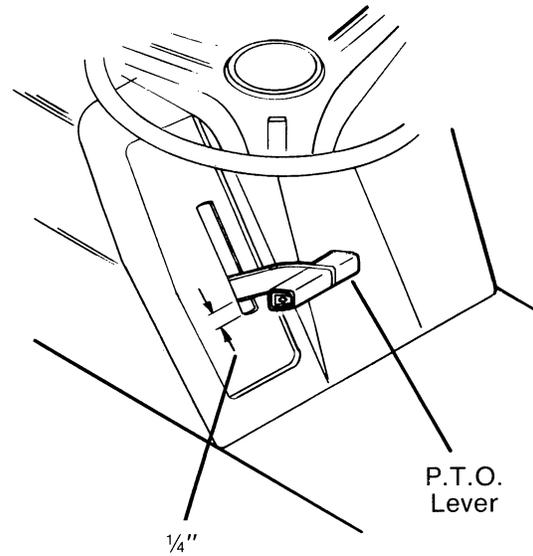
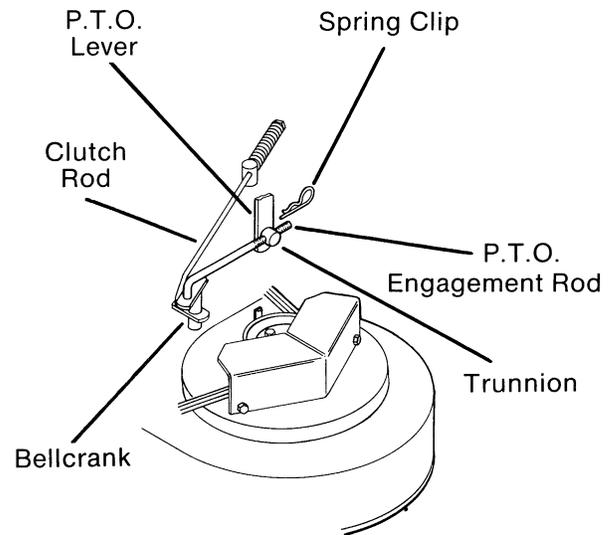

FIG. 8
FIG. 9
- O. Turn the trunnion on P.T.O. engagement rod, in or out, until small end of trunnion fits into hole on bottom of P.T.O. lever (Fig. 9). Secure with a spring clip.
NOTE: Large end of trunnion should be positioned on the left side (outside) of the P.T.O. lever. (Fig. 9)
- N. Position the P.T.O. lever on instrument panel 1/4 inch from the bottom of the slot, as shown in (Fig. 8).
- Move P.T.O. lever up to the "ON" position. The clutch rod, attached to bellcrank, should move over-center and rest against bellcrank hub. (Fig. 9) The P.T.O. lever must not contact top of slot in any cutting height. (Fig. 8)
- Move P.T.O. lever down to the "OFF" position, P.T.O. lever must not contact bottom of slot in any cutting height. (Fig. 8)
- Remove spring clip holding trunnion to bottom end of P.T.O. lever (Fig. 9), then remove trunnion from lever.